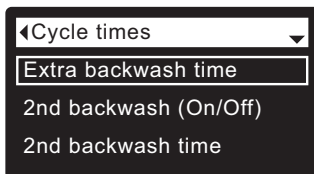

FIG. 83
5. Press the SELECT (O) button to display the Cycle times menu (See Figure 83).
9. Press the SELECT (O) button. The display will go back to the Cycle times menu (Figure 83).